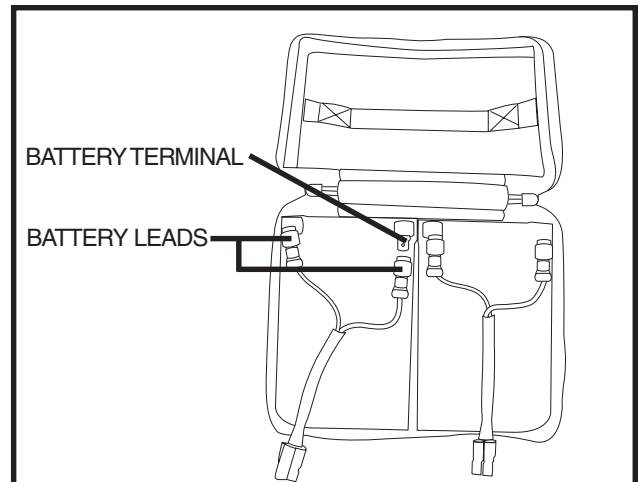

Figure 15. Battery Leads
5. Disconnect the red (+) positive and black (-) negative battery leads from the battery terminals by pulling them gently from the battery terminals. See figure 15.
1. Connect the two (2) battery leads to the new battery terminals. See figure 15.